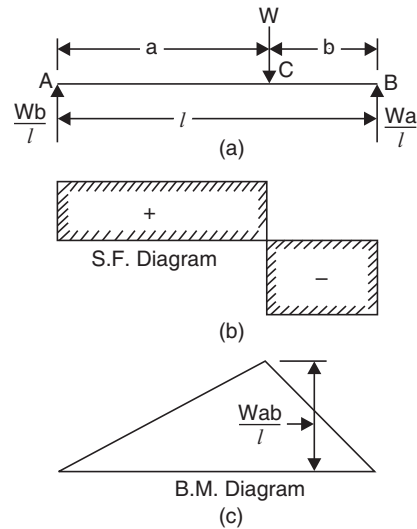

FIGURE 8.9
(c) **Beam with a point load (W) at a distance 'a' from one end and 'b' from the other end.** A beam AB of span l , simply supported at the ends and carrying a point load W at point C which is at a distance 'a' from end B and 'b' from the end A is shown in Fig. 8.9(a).
- (i) The shear force and bending moment diagrams are shown in Figs. 8.9 (b) and (c) respectively.